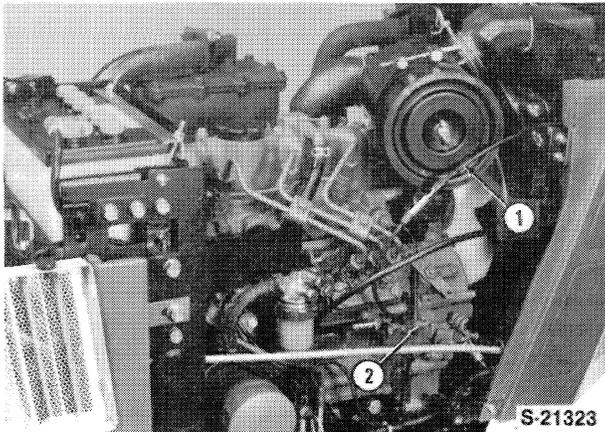

Figure 14
16. Remove the "E"-ring (2) and remove the throttle control cable (1) from the injection pump, Figure 14.